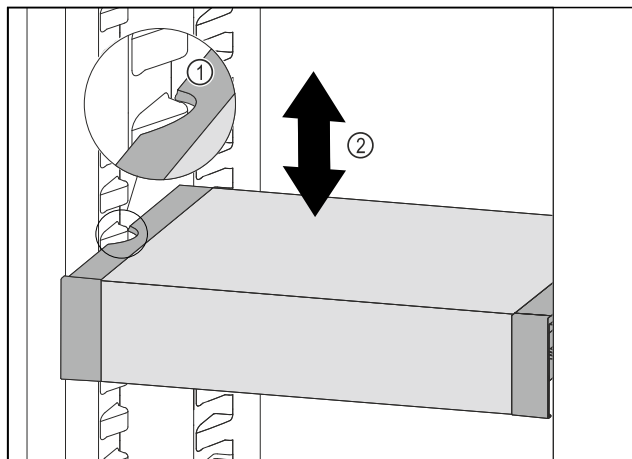

Fig. 135
- Pull VarioSafe forwards until the recesses in the side of the VarioSafe are at the level of the support rib in the refrigerator compartment. *Fig. 135 (1)*
- Move VarioSafe up or down in the refrigerator compartment until the desired height is reached. *Fig. 135 (2)*